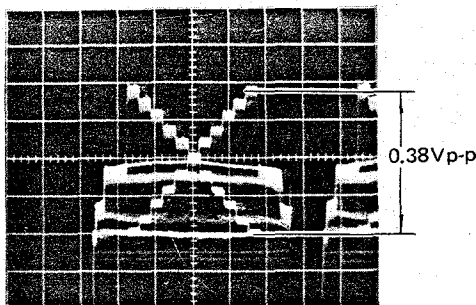

Fig. 6-4-20
- Adjust  $Y_H$  GAMMA VR303 until the signal level from the white to black chip of the gray scale chart is 0.38Vp-p. (Fig. 6-4-20)